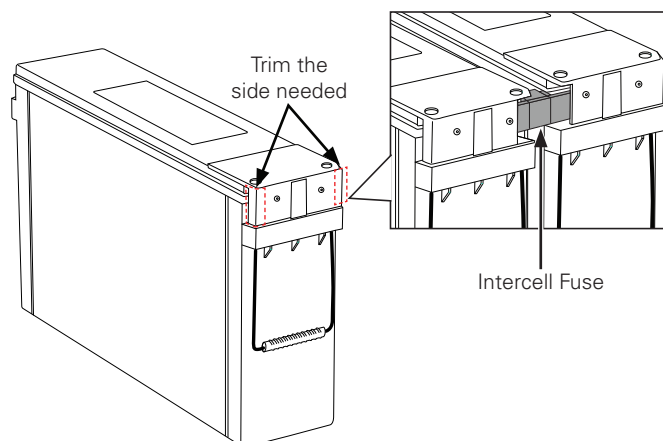

Fig. 2-7, Trimming Battery Cover on PowerSafe® SBS 190F
- I. Before installing covers, use a corrosion inhibitor such as NO-OX® electrical contact grease on battery terminals. Install battery covers. (On PowerSafe SBS 190F batteries, the covers must be trimmed with side cutters to fit around the intercell fuses. See Fig. 2-7. Trim side needed.)
- K. Before installing covers, use a corrosion inhibitor such as NO-OX® electrical contact grease on battery terminals. Install battery covers. (On PowerSafe SBS 190F batteries the covers must be trimmed with side cutters to fit around the intercell fuses. See Fig. 2-7.)